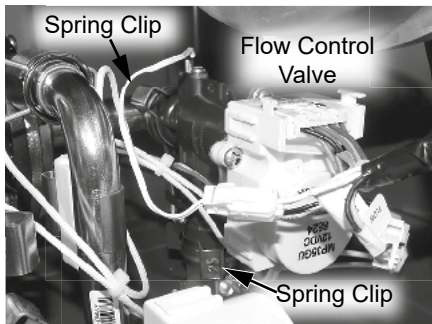

Figure 4 - Flow control valve location
- 17 Locate the flow control valve at the bottom right side of the water heater as shown in Figure 4.